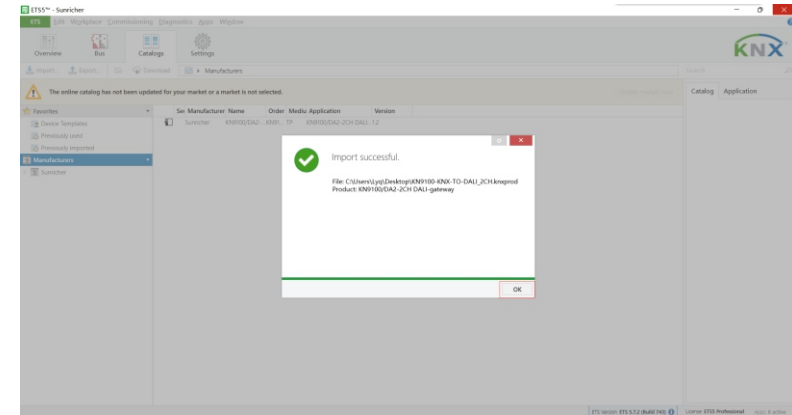

Figure 16
2.3. Database is imported successfully, click on “OK” button as shown in Figure 16.